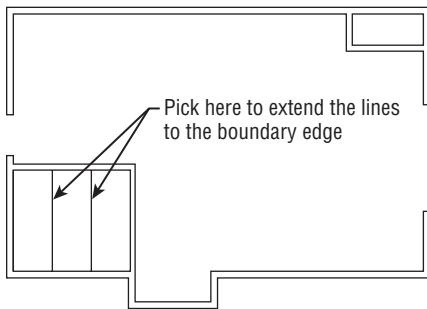

FIGURE 4.35 The lines after being extended through the bathroom walls
3. Click the two jamb lines to extend them. Be sure to pick points on the lines that are near the end of the line you want to extend, as shown in Figure 4.35, or the lines will be extended in the opposite direction.
The lines are extended through the interior walls to make the jambs (see Figure 4.35).